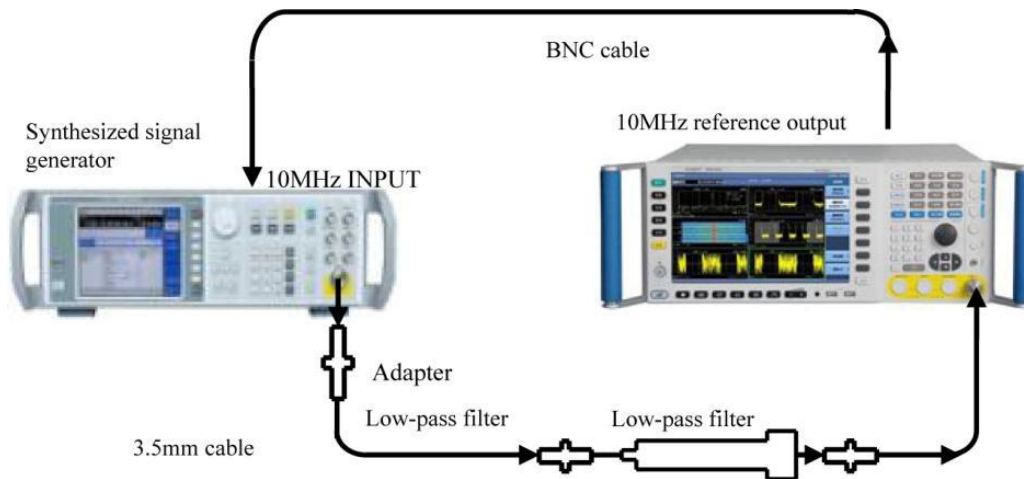

Fig. 8.15 Schematic diagram of second harmonic distortion test
- 1) Connect the 500 MHz low-pass filter and the BNC cable to the instrument as shown in Fig. 8.15. Reset the 4051 analyzer to provide frequency reference for the synthesized signal generator.
- 7) Connect the instrument as shown in Fig. 8.15 and use 1.6 GHz low-pass filter.
- 11) Connect the instrument as shown in Fig. 8.15 and use 4GHz low-pass filter.
- 15) Connect the instrument as shown in Fig. 8.15 and use 9GHz low-pass filter.
- 19) Connect the instrument as shown in Fig. 8.15 and use 26.5GHz low-pass filter.
- 23) Connect the instrument as shown in Fig. 8.15 and use 40GHz low-pass filter.